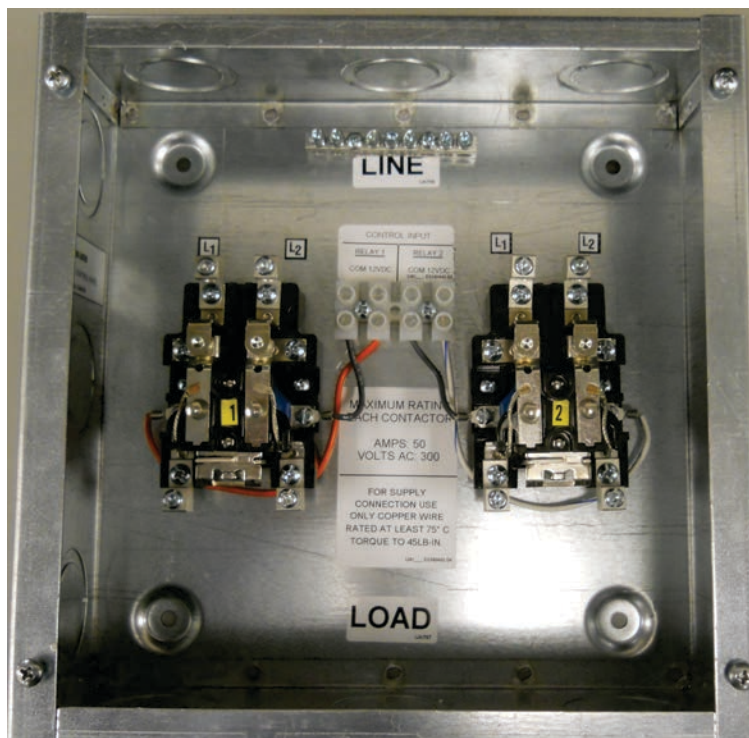

FIGURE 2. CONTACTOR BOX
- C. Connect wires from the Ground connector to the "COM" terminals of relays 1 and 2. See Figure 2.